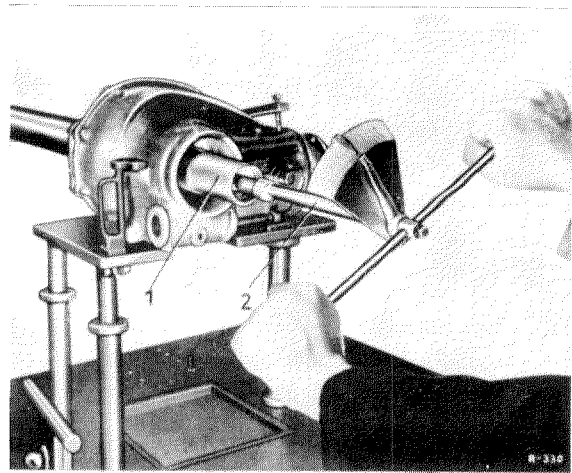

Fig. 35 — 4/38
99. After the specified torque value has been obtained, tighten the threaded ring $\frac{3}{4}$ to 1 notch (see Fig. 35 — 4/37).